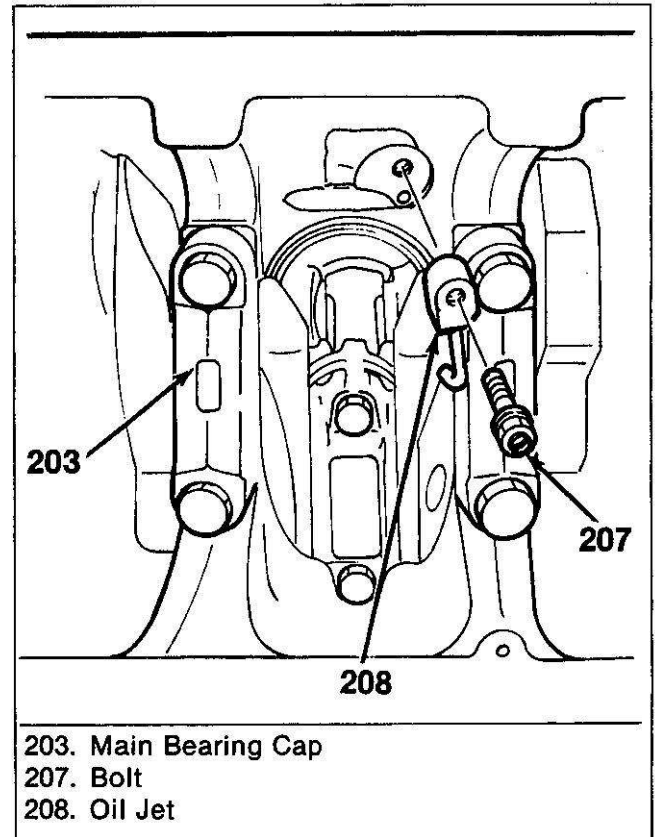

Figure 120. Oil Jet Location
1. Remove the oil pan (134) as outlined previously in this section.
2. Remove the bolts (207) and oil jet (208) (figure 120).
- Inspect the oil jet (208) passage for obstructions.
3. Install the oil jet (208) and bolt (207).